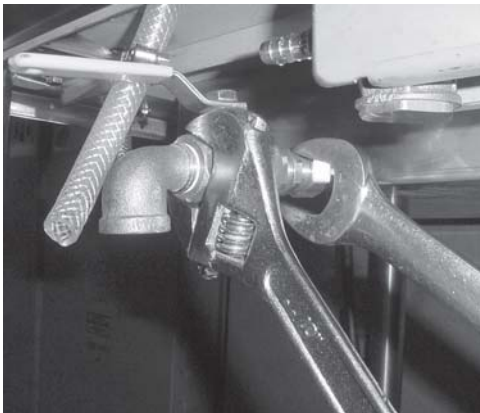

Figure 3-53
5. Using 2 wrenches, turn drain valve counterclockwise, while holding fitting behind it. Figure 3-53. Remove drain valve assembly from unit.